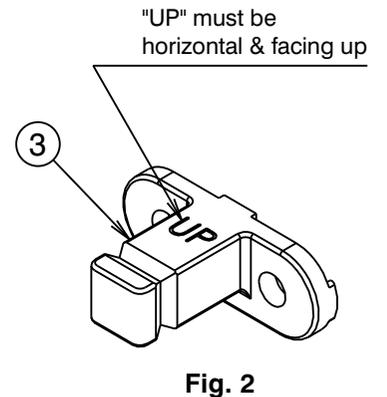

Fig. 2
- \* Wall anchor (1) is only suitable for use in cavity walls with a tiled surface. If installing into a plasterboard cavity wall (untiled) it is recommended that the accessory be attached to the wall in line with a stud or noggin using suitable screws.
- \* For cavity wall applications, the total wall thickness must be 8-16mm when using the supplied wall anchors (1).
- \* Before drilling check position of towel rails to ensure the fixing plates (3) are horizontal and engraved UP is faced up (Fig. 2).
- 2) Insert rounded end of wall plugs (2) into drilled holes and push in until flush with the wall surface.
- 3) Fit screws (4) through holes in fixing plates (3) before inserting into wall plugs (2). Ensure orientation of fixing plates (3) is as pictured in Fig.2.
- 4) Tighten screws (4) using Allen key (9).
- 2) Flatten barbs on head flange of wall anchors (1). Insert the wall anchors (1) into the drilled holes until the head flange is against the wall surface.
- 3) Fit the wall anchor M4 screws (5) with washers (6) through holes in fixing plates (3) before screwing them into installed wall anchors (1). Ensure orientation of fixing plates (3) is as pictured in Fig.2.
- 4) Tighten screws (5) using Allen key (9).
- 1) Determine a suitable position to attach fixing plates (3) so that they can be fixed to a stud or noggin in the wall.
- 2) Ensure correct orientation of fixing plates (3) as shown in Fig. 2. Fit screws (4) through holes in fixing plates (3) and screw directly into stud or noggin, then tighten screws (4).